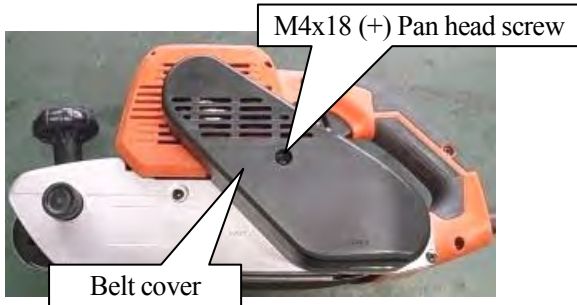

Fig. 3
- 1 Remove Belt cover and Poly V-belt 6-355. (Refer to Fig. 2 and Fig. 3.)